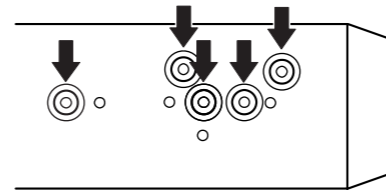

Fig. 9
2. Fastening the unit to the factory radio mounting bracket. (Fig. 9) (Fig. 10)